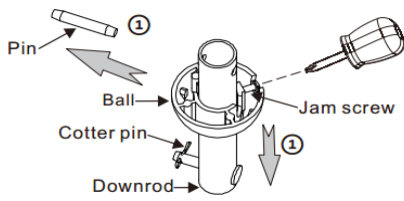

Fig. 1
1. Loosen the jam screw from the hanging ball and pull it down, remove the pin from the downrod and keep it for step 6 (Fig. 1).